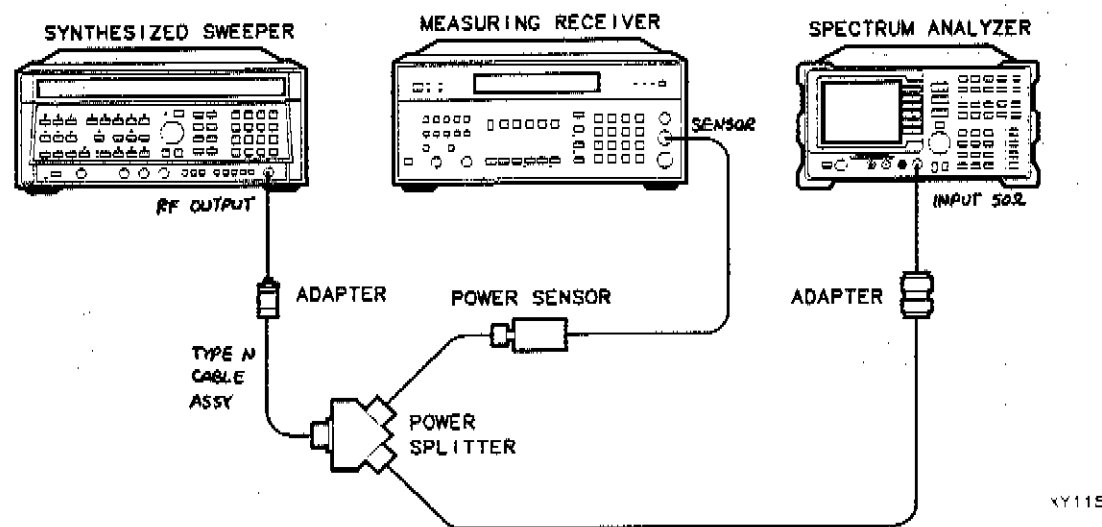

Figure 1-15. Frequency Response Test Setup, ≥ 50 MHz
2. Connect the equipment as shown in Figure 1-15.